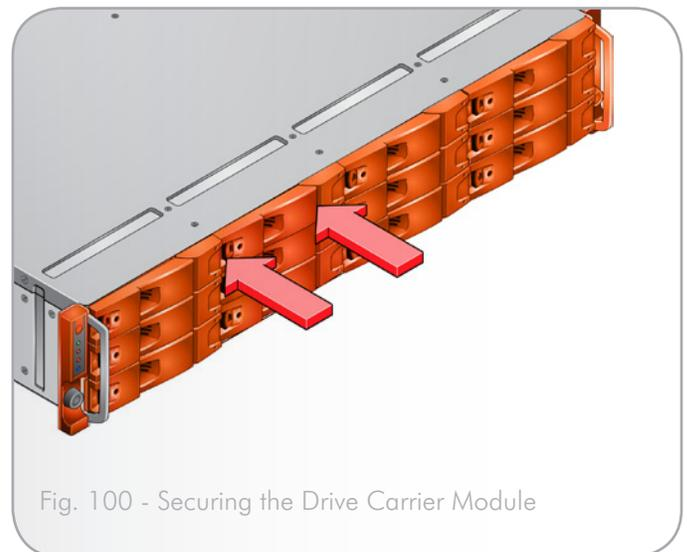

Fig. 100 - Securing the Drive Carrier Module
4. Secure the drive carrier by closing the handle until it fully engages. A click should be heard as the latch engages and holds the handle closed (*Fig. 100*).